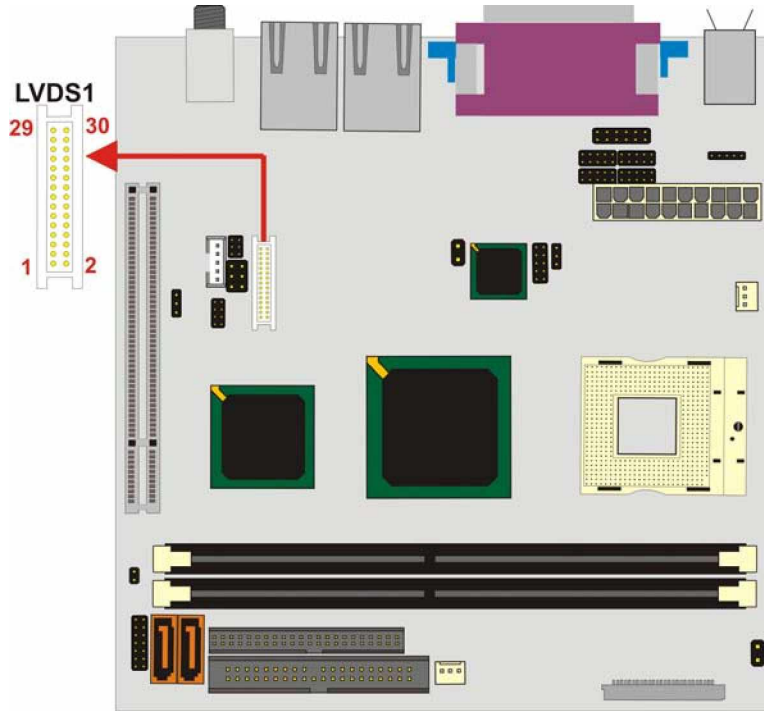

Figure 3-12: LVDS Connector Pinout Locations
- CN Location:** See Figure 3-12
- CN Pinouts:** See Figure 3-12